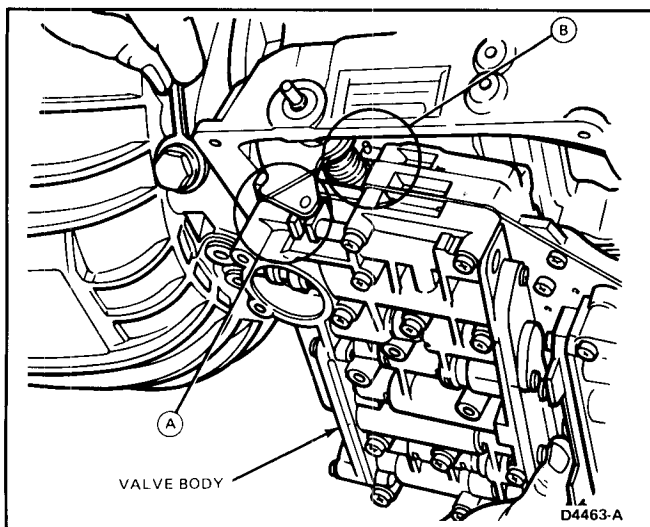

FIG. 6 Valve Body—Installation
1. Position valve body under case to engage detent plate pin in manual valve (Fig. 6, Circle A).
2. Pull on kickdown cable to position accelerator cam so that roller on throttle piston clears the cam (Fig. 6, Circle B).